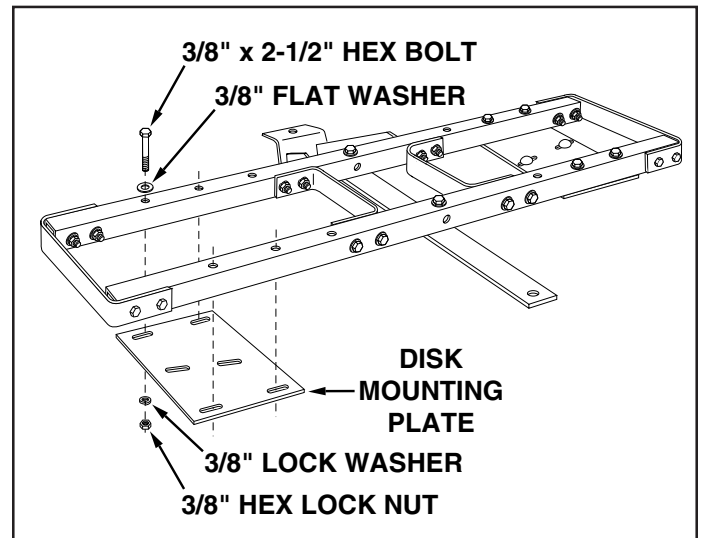

FIGURE 8
9. Assemble the two disk mounting plates to the frame using eight 3/8" x 2-1/2" hex bolts, 3/8" flat washers (placed under bolt heads), 3/8" lock washers and 3/8" hex lock nuts. The middle slots in the plates should angle toward the rear corners of the frame. **Do not tighten yet.** See figure 8.